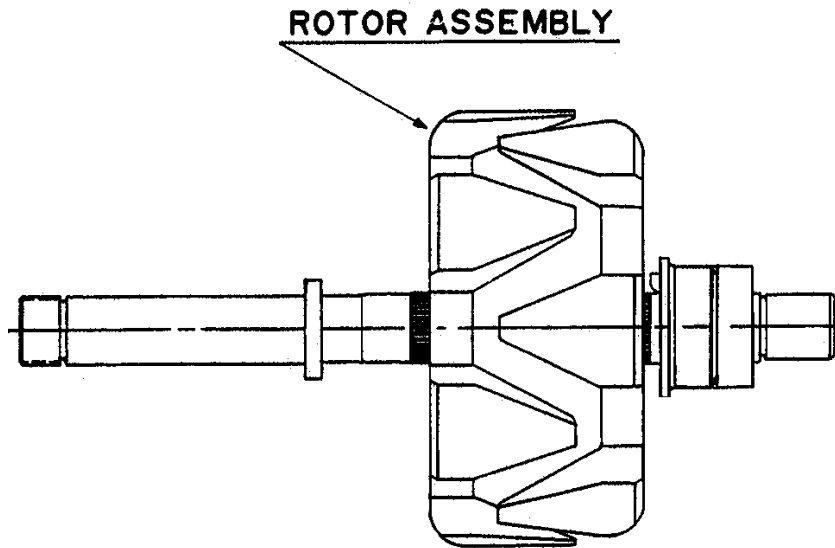

FIGURE 9
1. Using an arbor press, press the shaft (11) into the drive end bearing (3) until it bottoms on the stop collar. Do not press against the bearing unsupported. Use a tool that fits over the shaft and supports the bearing inner race. (See Figure 9.)